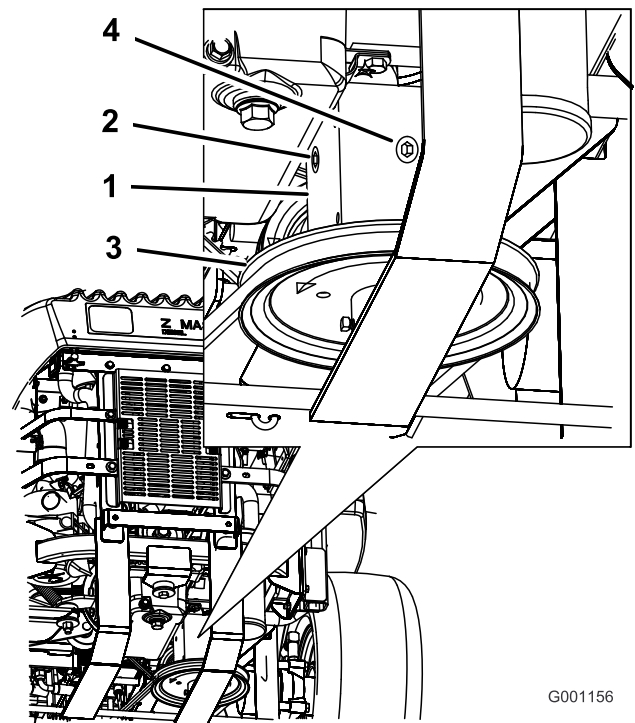

Figure 67
4. Remove the side or rear plug on the gearbox (Figure 67).